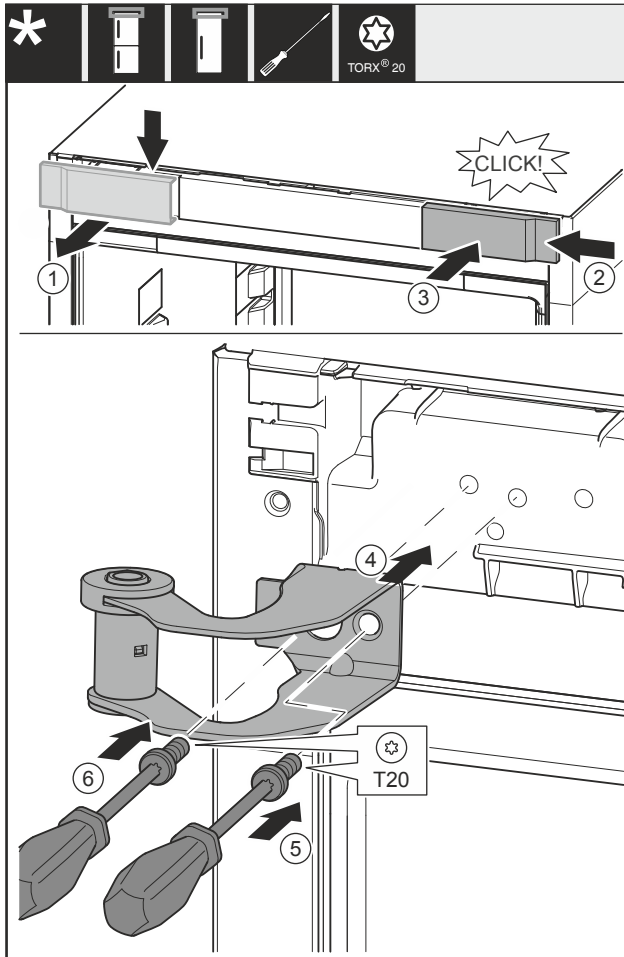

Fig. 11
- Remove the cover Fig. 11 (1) from above towards the front.
- Turn the cover Fig. 11 (2) by 180° and attach to the other side from the right.
- Engage the cover Fig. 11 (3).
- Place the top swap bearing block Fig. 11 (4).
- Screw the screw Fig. 11 (5) tight.
- Screw the screw Fig. 11 (6) tight.